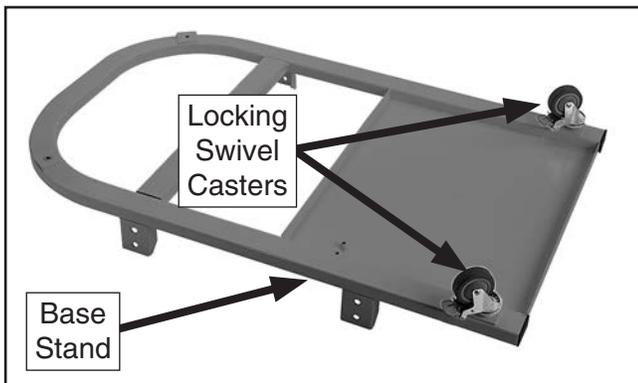

Figure 9. Locking swivel casters installed.
1. Thread (2) 3" locking swivel casters into base stand, then tighten hex head on caster threads (see **Figure 9**).